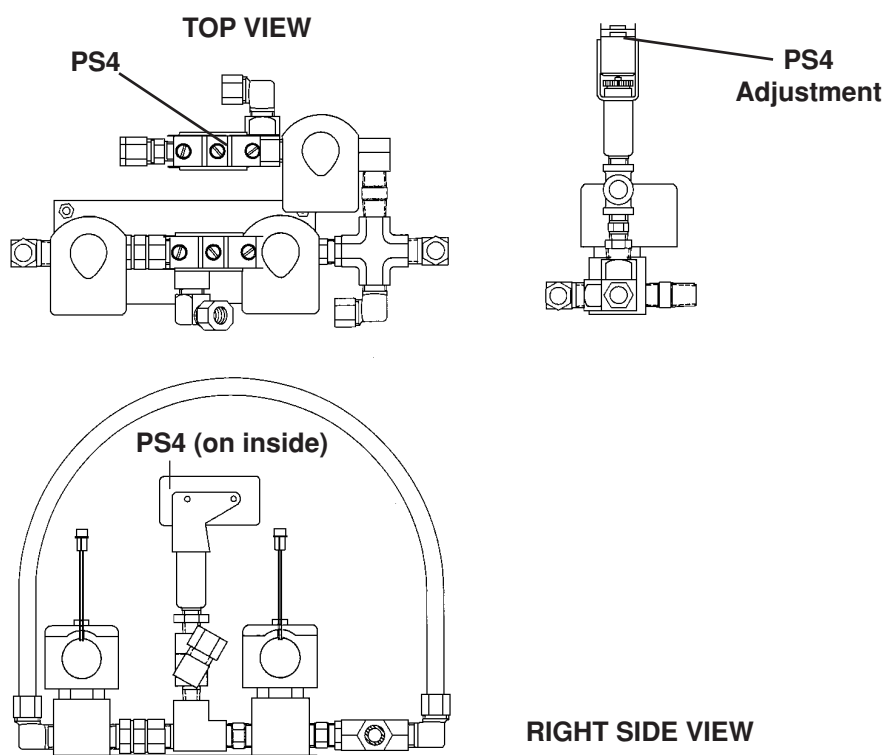

Figure 3-10 Pressure Switch PS4 and Adjustment Location
2. If the plasma gas RUN pressure does not quickly reach the value stated in the Cut Charts **after arc transfer**, you may need to adjust PS4. Remove the right side panel of the power supply. On the floor of the power supply, locate pressure switch PS4 by referring to Figure 3-10 and adjust by turning the PS4 Adjustment screw in a clockwise direction.